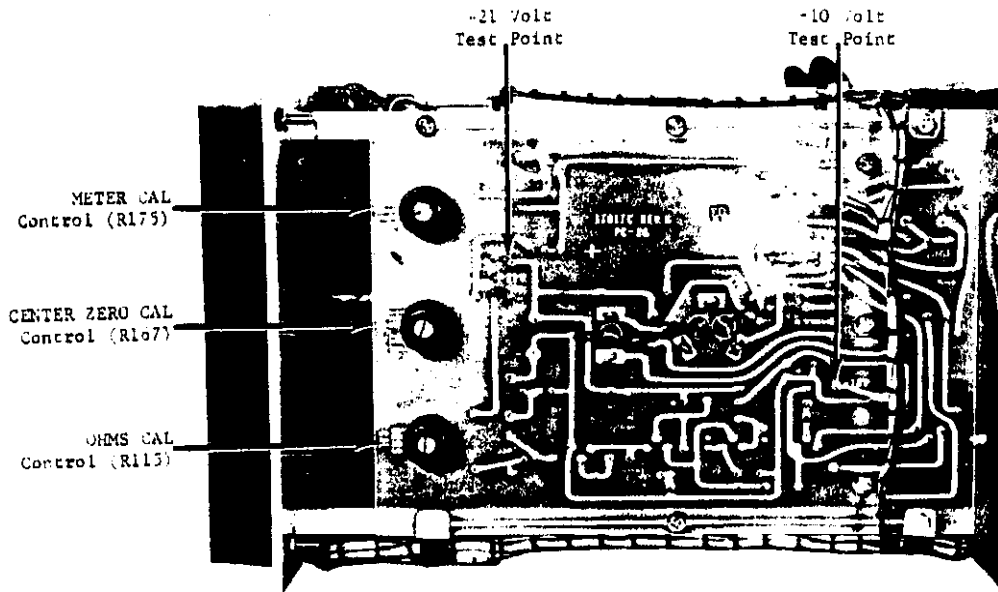
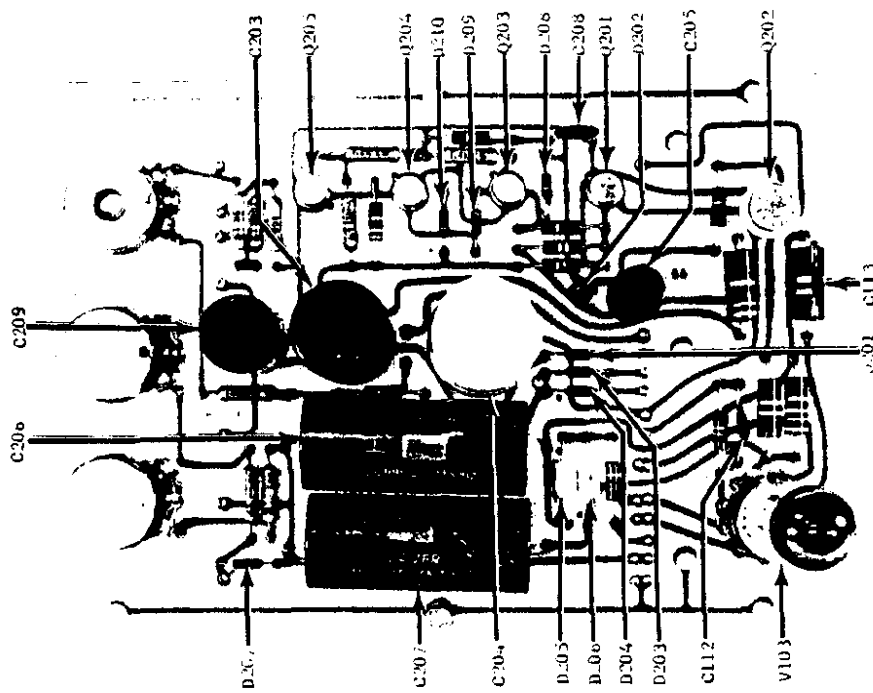
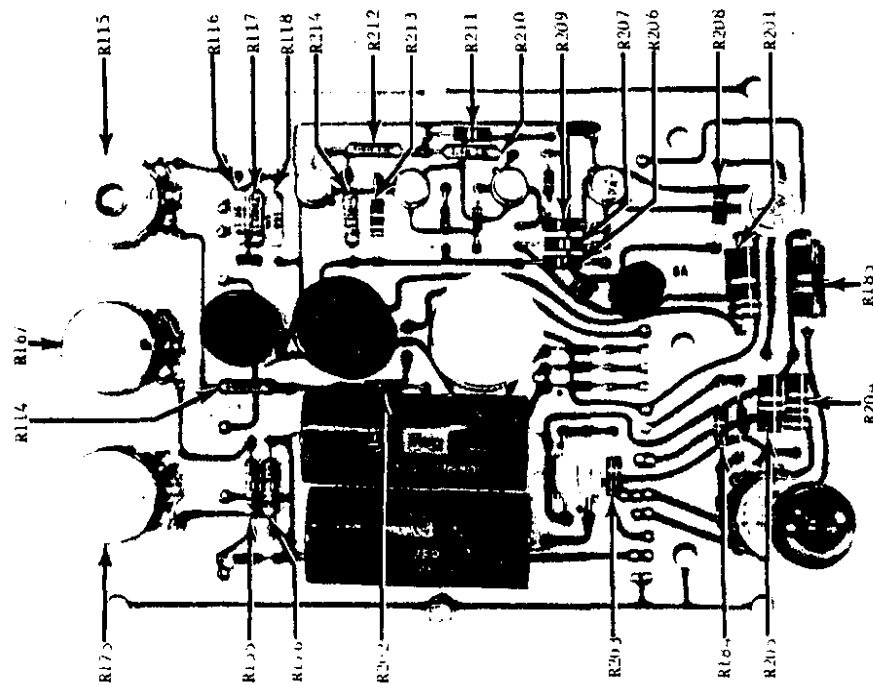

FIGURE 18. Model 610B Internal Controls. Test points for the -10 volt and +21 volt power supplies are also shown. Refer to Figure 19 for the DC AMP BAL Control.
FIGURE 23. Capacitor, Diode, Transistor and Vacuum Tube Locations on Printed Circuit 86. Resistors are shown in Figure 24.
FIGURE 24. Resistor Locations on Printed Circuit 86. Other components are shown in Figure 23.
1. Set the FEEDBACK Switch to FAST to connect the instrument's chassis to floating ground. Connect a 100-megohm dc voltmeter between the -10 volt supply and the chassis. (-10 V is indicated on PC-86, Figure 18.) The voltage should be -10 volts dc  $\pm 20\%$ .
2. Connect the voltmeter between the +21 volt supply and the chassis. (+21 V is indicated on PC-86, Figure 18.) The +21 volt supply can not operate unless the -10 volt supply is operating. The voltage should be +21 volts dc  $\pm 10\%$ . A faulty +21 volt supply can indicate a faulty zener, D210 (Figure 23).
6. Check the output stage cathode resistor, R185 (Figure 24), and capacitor, C113 (Figure 23), for a possible short.
a. Connect the Model 662 to the junction of resistors R115 and R116 (Figure 24) and the common lead to the + terminal of capacitor C203 (Figure 23). Adjust the OHMS CAL potentiometer, R115 (Figure 18), for 10 volts dc  $\pm 0.5\%$ .
b. Turn the Model 610B on. Zero the meter on the .001-volt range. Then switch to the 10-volt range. Set the Multiplier Switch to 10; apply 10 volts  $\pm 0.05\%$  to the Model 610B INPUT Receptacle. Adjust the METER CAL potentiometer, R175 (Figure 18), for full-scale meter reading.
c. Set the center zero by first zeroing the meter on the .001-volt range. Then switch to the 1-volt range. Set the METER Switch to CENTER ZERO and adjust the CENTER ZERO CAL potentiometer, R167 (Figure 18), for exact center-scale meter zero.